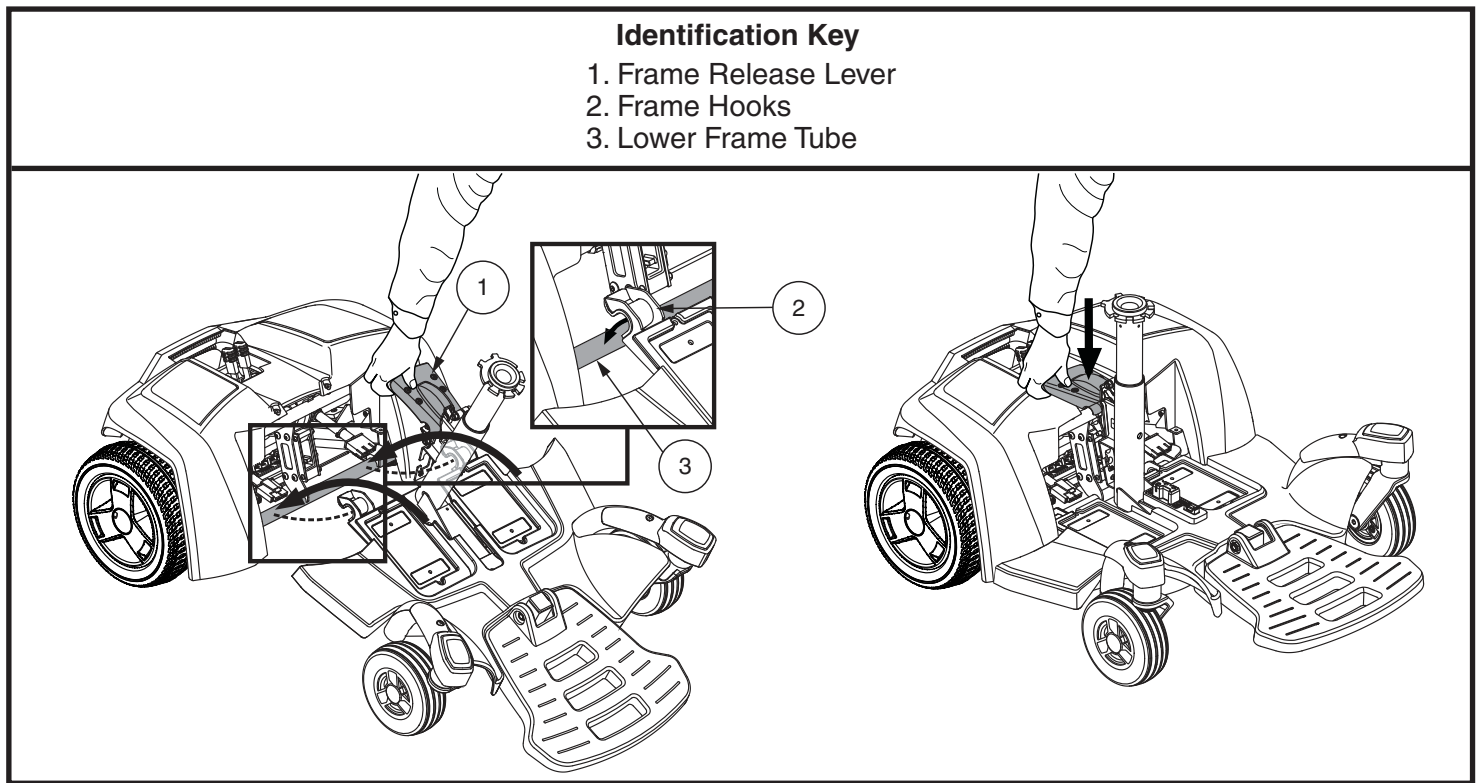

Figure 7. Go-Chair Assembly
1. Use the frame release lever to lift the front section as you align the frame hooks of the front section with the lower frame tube of the rear section. **See figure 7.**
2. Once the frame hooks are over the lower frame tube, lower the front section and pivot the rear section simultaneously. This will engage the frame lock-up automatically. **See figure 7.**